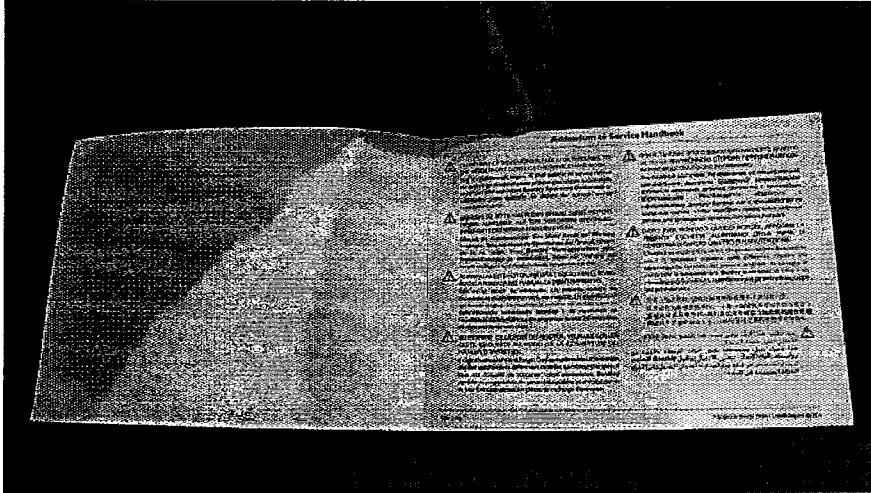

Figure 1
- Stick the Addendum onto the opening page of Service Handbook (Figure 1)